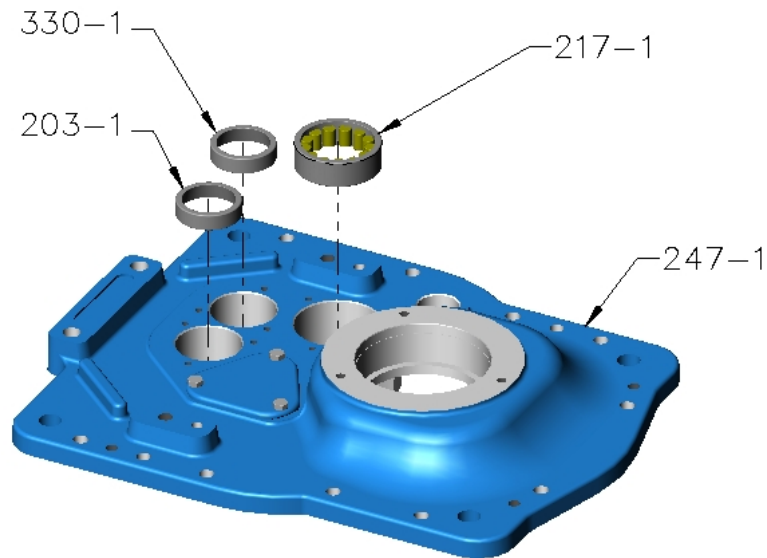

Figure 12 – Bearing races in case lid
P. At case lid remove following items (refer Figure 12):